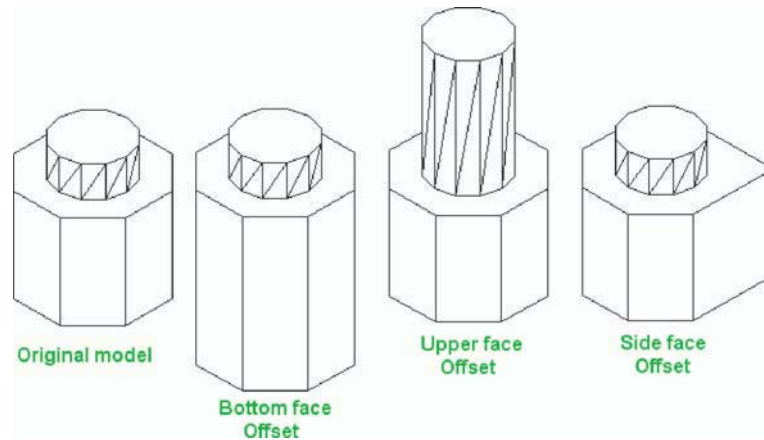

Fig. 18.9 Fourth example – **Offset Faces** tool
### Fourth example – Offset Faces (Fig. 18.9)
1. Construct the 3D solid drawing shown in the left-hand drawing of Fig. 18.9 from a hexagonal extrusion and a cylinder which have been united using the **Union** tool.
The results are shown in Fig. 18.9.